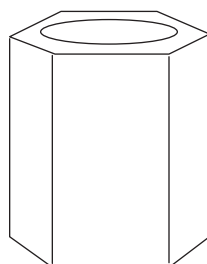

Figure 3.
5. Pour liquid nitrogen into the Saf-Cube to a depth of 3–4 cm (see Figure 3).